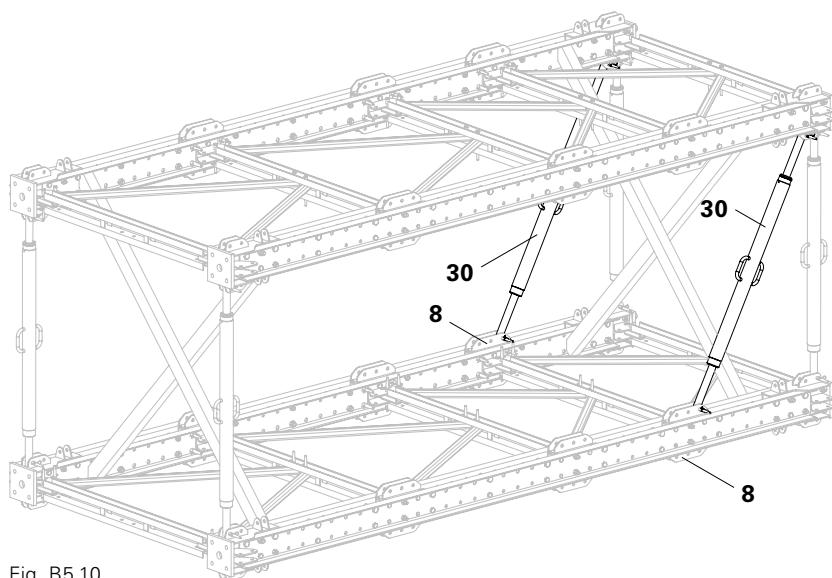

Fig. B5.10
1. Insert the appropriate Heavy-Duty Spindle SLS (30) into the connection of the Prop Base VST 48 (17).
2. Connect the Heavy-Duty Spindle SLS (30) to the Bracing Connector VST (8) and Prop Base VST 48 (17) by means of 1x Fitting Pin Ø 21 mm (9) each. (Fig. B5.10)